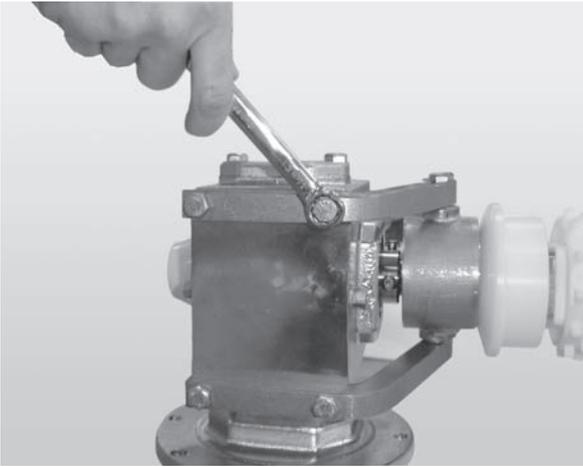

Figure 63
4. Unbolt the drive assembly and slide it off the bearing spindle (Figure 63).